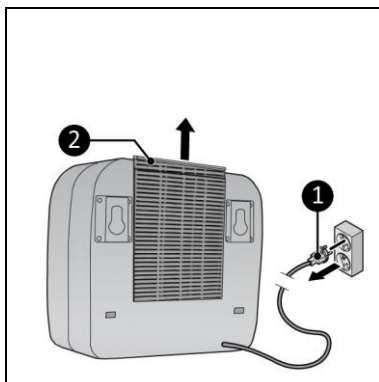

Figure 14
1. Make sure the device is switched off and the plug is removed from the power outlet (Figure 14, pos. 1).
2. Pull the frame up (Figure 14, pos. 2) and remove the filter.